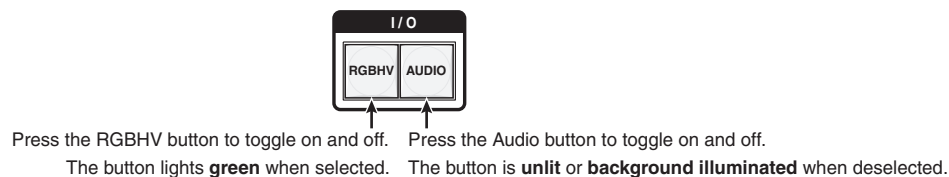

Figure 3-10 — Select RGBHV only
2. To select video only for the tie, if necessary, press and release the RGBHV button and the Audio button (figure 3-10).